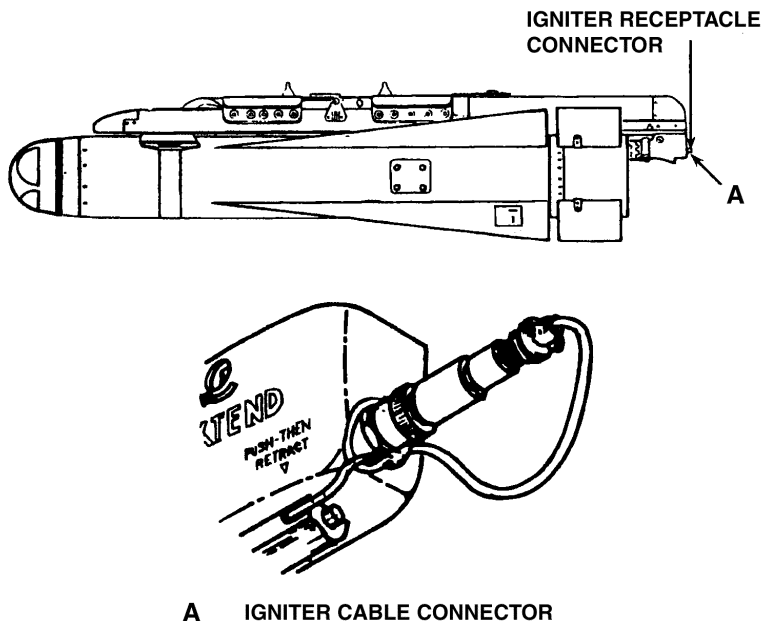

Figure 2. Rocket Motor Igniter Cable Connection
2. Connect missile (rocket motor) igniter cable to launcher as follows (Fig. 2):